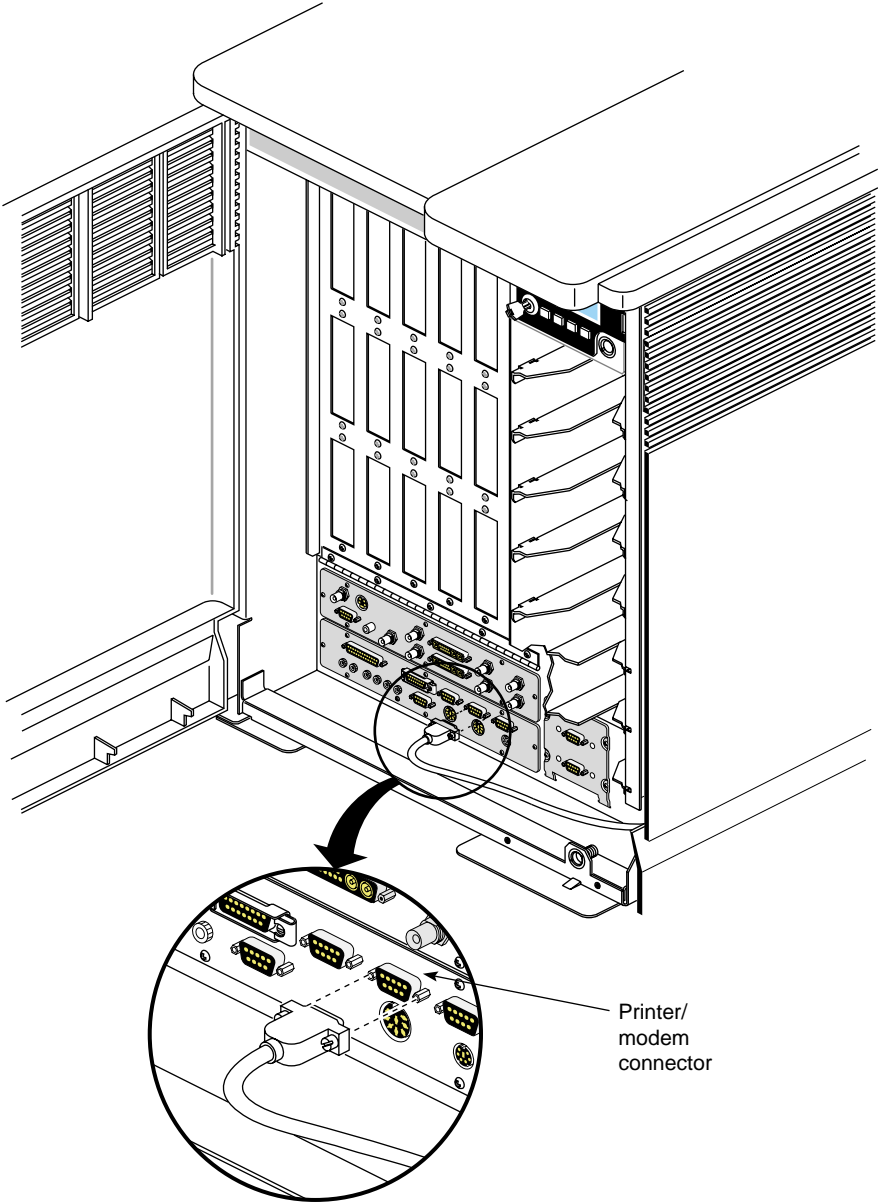

Figure 4-12 Connecting a Serial Printer or Modem
4. Attach the 9-pin connector on the other end of the printer cable to one of the 9-pin serial connectors on the I/O panel, as shown in Figure 4-12.